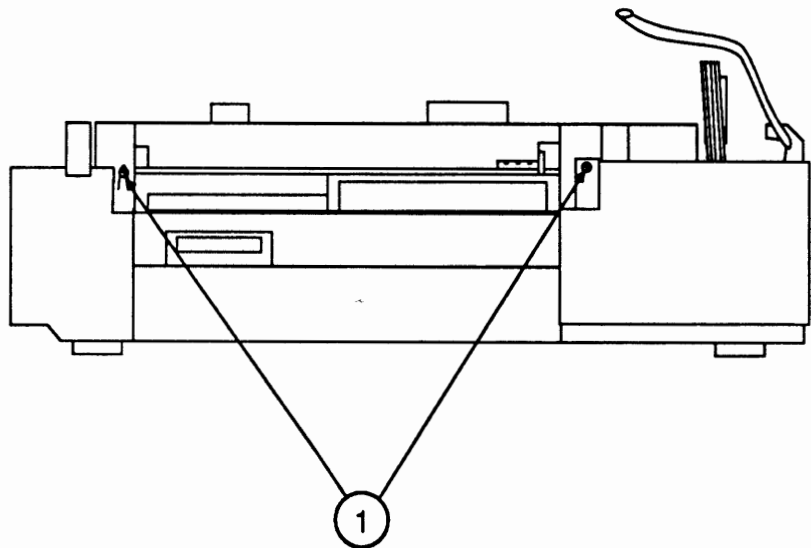

FIGURE 2-63
4. Remove the two screws on either side of the manual feed entrance (Figure 2-63, #1).